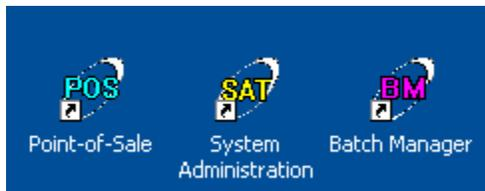

Figure 2.10
14. Upon a successful installation, three shortcut icons to the POS program (POS – Point-of-Sale, SAT – System Administration, and BM - Batch Manager) will appear on the PC desktop (Figure 2.10). The version number can also be verified by signing on to the SAT, POS, or Batch Manager and clicking **'Help'**, **'About PCC OTC'** from the menu at top of the screen. The Security Administrator will need to sign on to the SAT as the 'admin' user and create user accounts. For complete information, refer to the *System Administration Tool* chapter, 'User Administration' section of this SOP.